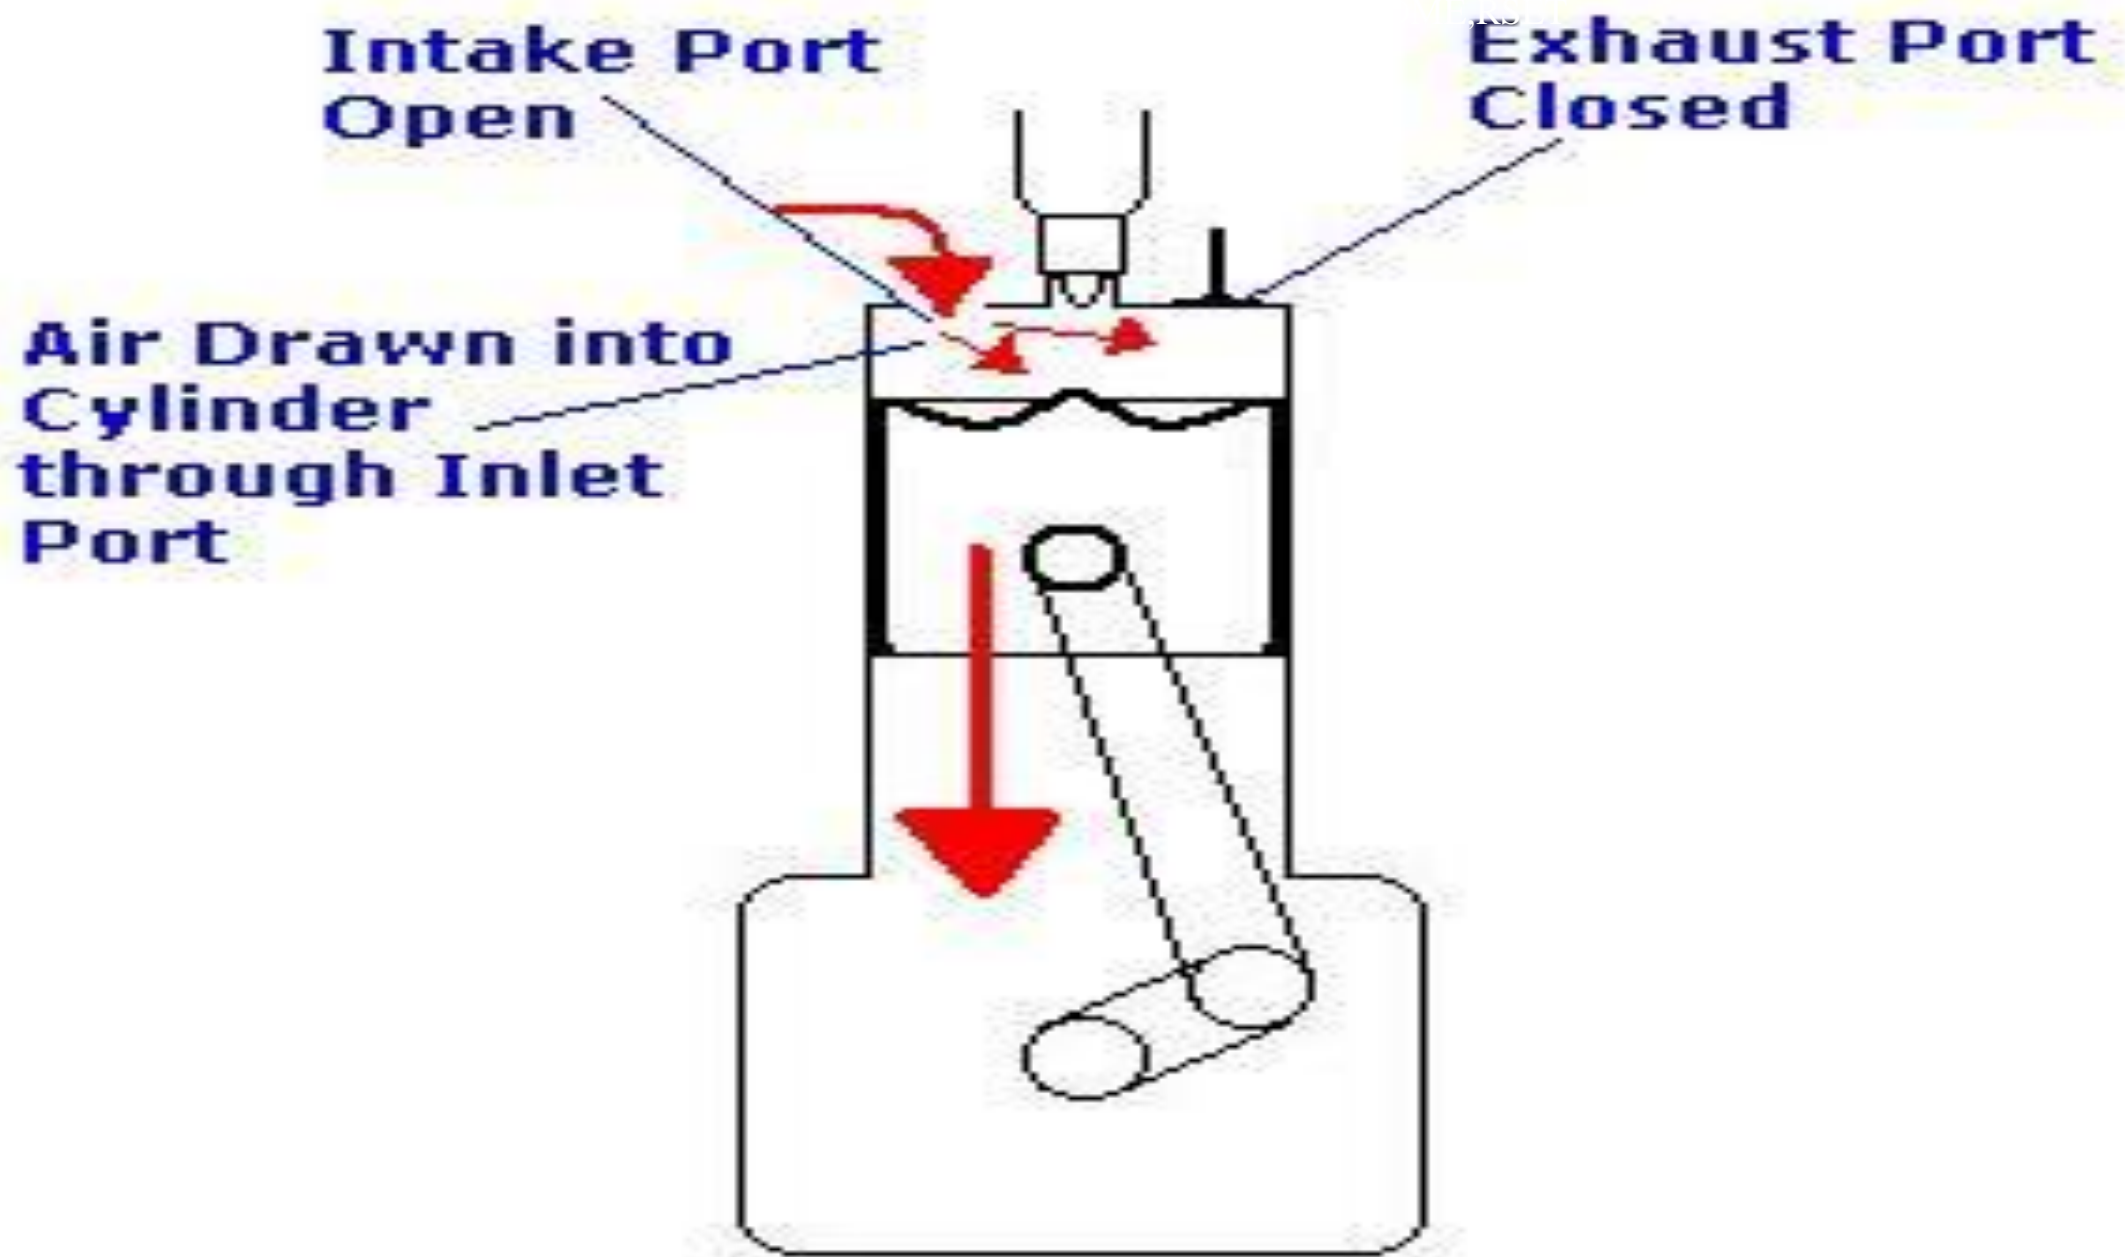

Figure10:Suction stroke
- **Intake/Suction Stroke** : The same as the intake stroke in an SI engine with one major difference : no fuel is added to the incoming air, refer figure 10.